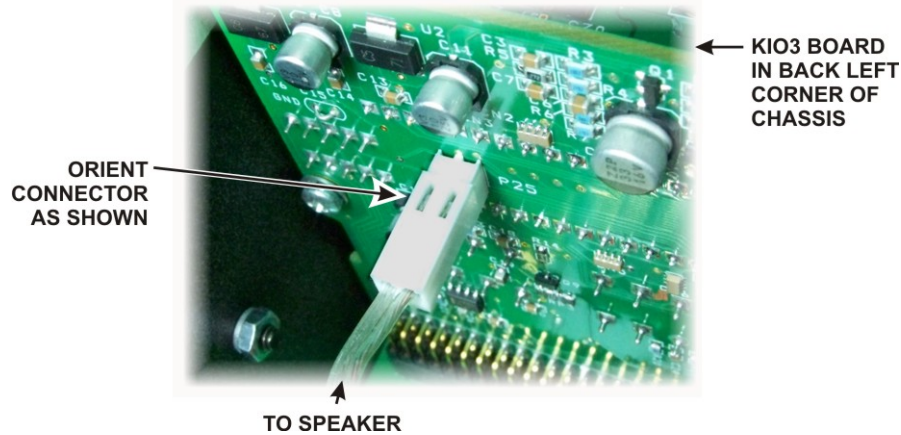

Figure 17. Connecting Speaker Cable.
- Hold the top cover above the K3, route the speaker wire under the stiffener bar and plug it into P25 on the KIO3 board at the left rear of the K3 as shown in Figure 17.